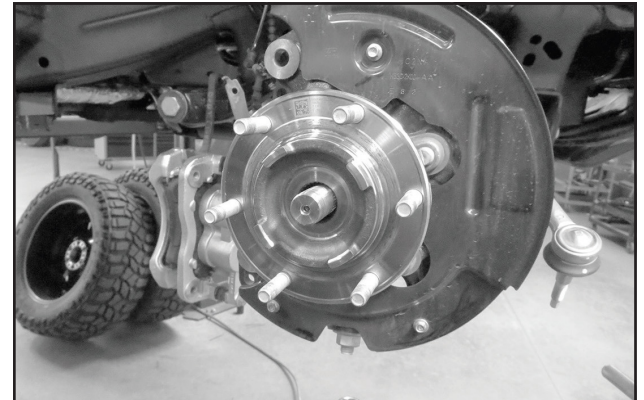

FIGURE 6 - STEP 6
6. Remove the CV axle nut and save. **(FIGURE 6).**